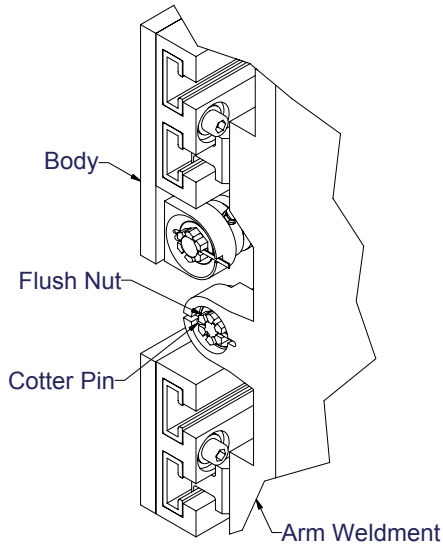

Figure 4-2, Arm
1. Extend the arms outside of the body. Remove the cotter pin retaining the flush nut. Remove the flush nut. (Figure 4-2)